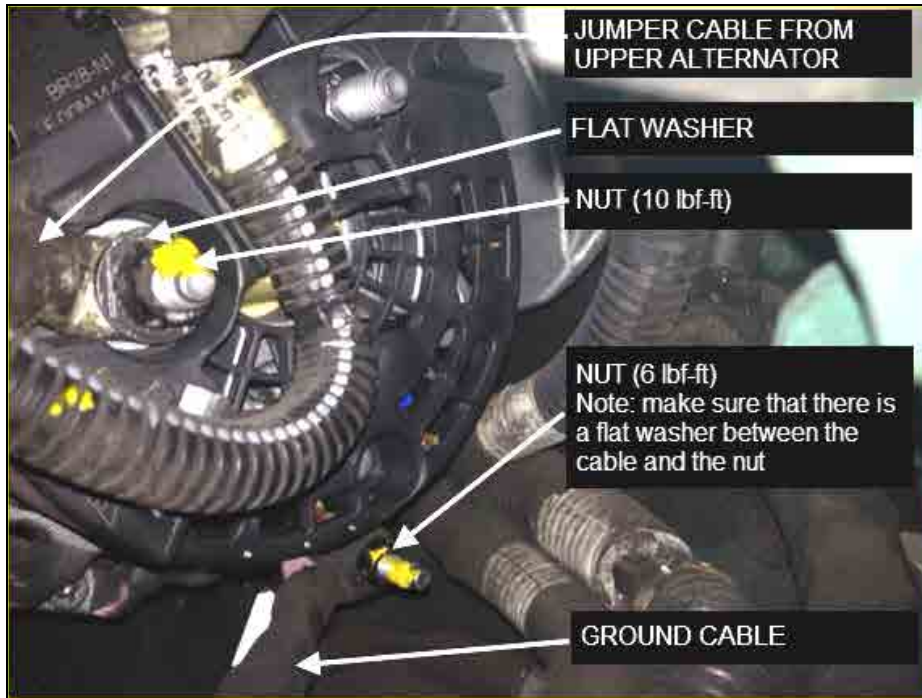

FIGURE 26
- Fit jumper cable (positive cable) onto **B1+** stud terminal on lower alternator (**FIGURE 26**).
- Place one new flat washer #5001341 against the cable ring terminal and screw new nut #5001787 (nut torque: 10 lbf-ft) (**FIGURE 26**).
- Fit the ground cable onto the alternator ground stud, place one new flat washer #502573 against the ground cable ring terminal and screw a new nut #5001182 (nut torque: 6 lbf-ft) (**FIGURE 26**).